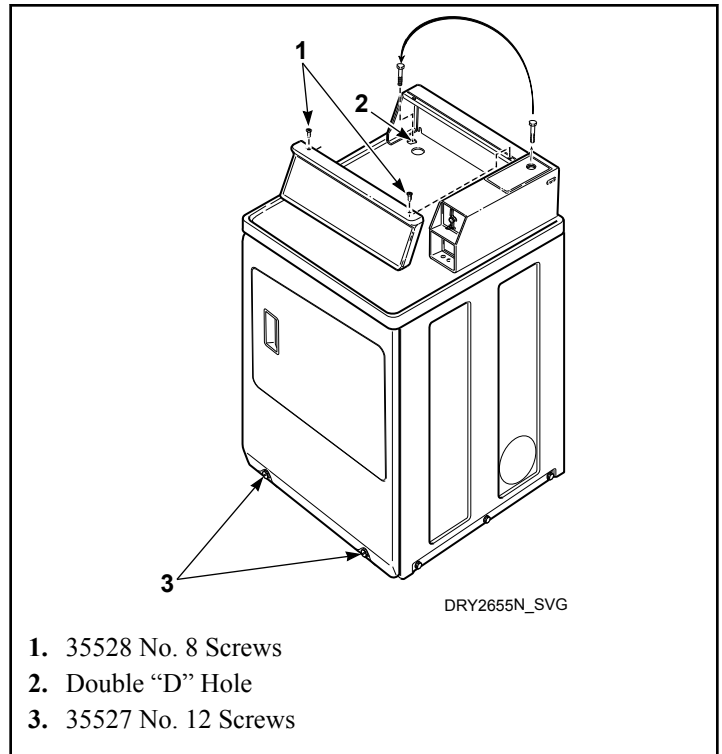

Figure 35
1. Remove the Phillips head screw from service door (refer to *Figure 35*).